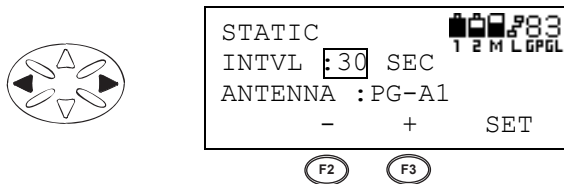

Figure 3-17. Select Desired Interval
- Press the **left/right cursor keys** or **F2/F3** to scroll through the available options, then select the desired interval (Figure 3-17); available intervals are: 1, 5, 10, 15, 30, 60.